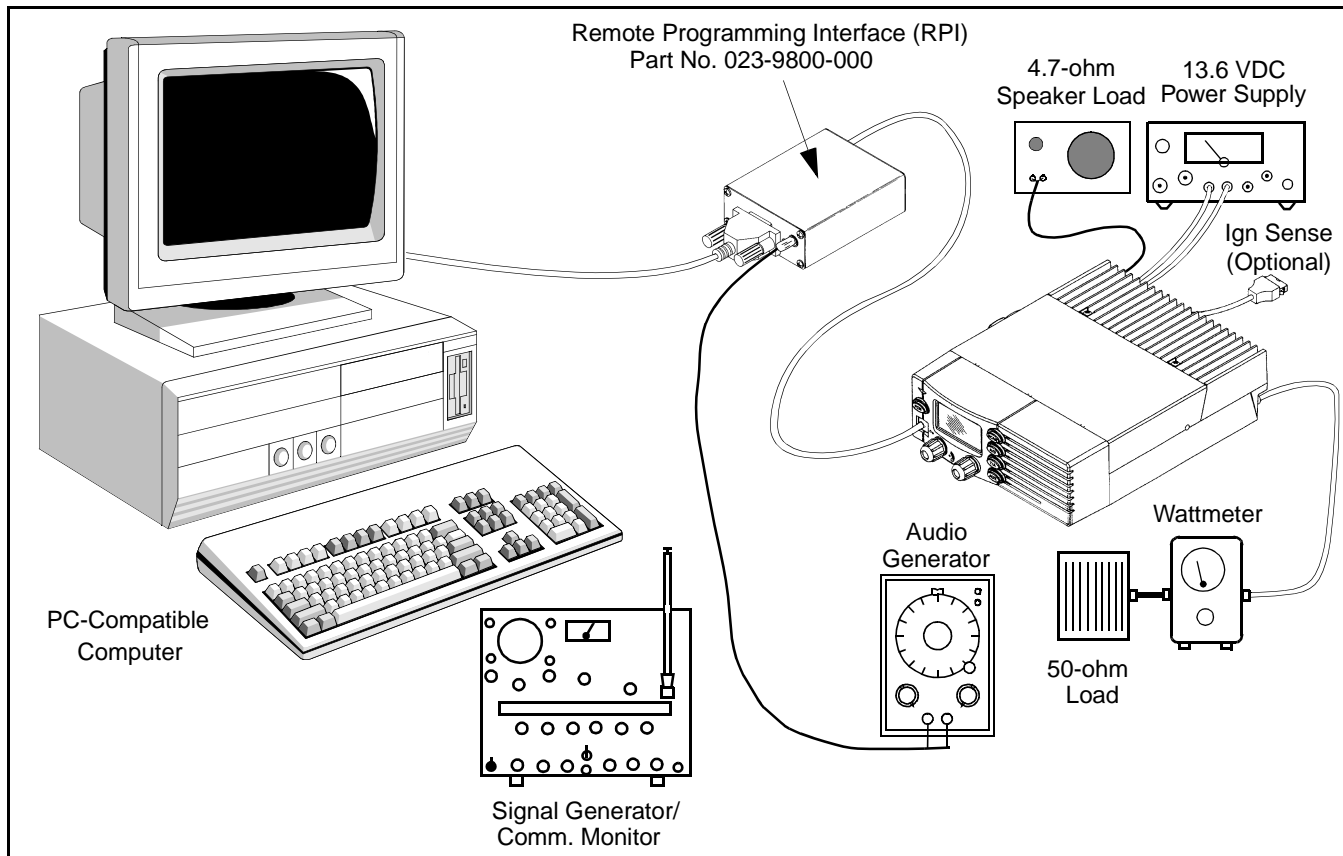

Figure 7-1 Alignment Setup
Connect the test setup shown in Figure 7-1. The following is additional information on equipment in this setup.
2. Apply a 1 kHz, 1 volt rms, AC coupled signal to the transmit audio input jack of the RPI as shown in Figure 7-1.
1. Connect a wattmeter and antenna load to the antenna jack as shown in Figure 7-1.
- Apply a 1 kHz, 1 volt rms, AC coupled signal to the transmit audio input jack of the RPI as shown in Figure 7-1.